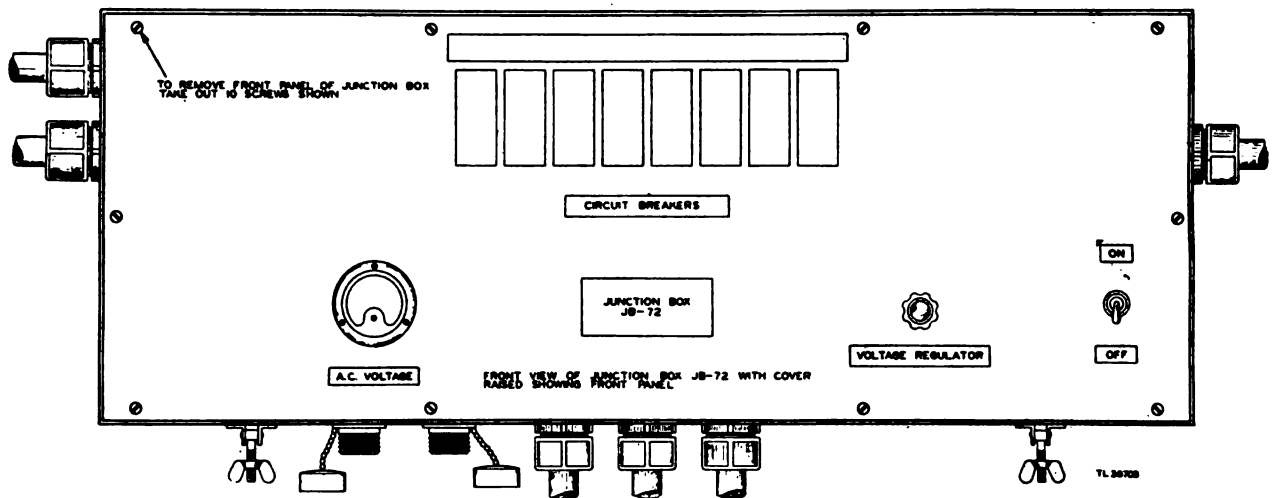

Figure 54. Front view of Junction Box JB-72 with cover open.
a. All a-c power is furnished to the RC-148-(\*), equipment through the main terminal board of Junction Box JB-22 or Junction Box JB-72 of Trailer K-28-(\*), (figs. 54 and 56). Before the cables for Radio Equipment RC-148 are placed in position, two additional Amphenol receptacles must be installed in this junction box.
(1) Remove the ten screws which hold the inner panel of the junction box in place as shown in figure 54.
(2) Raise this panel to one side and support temporarily.